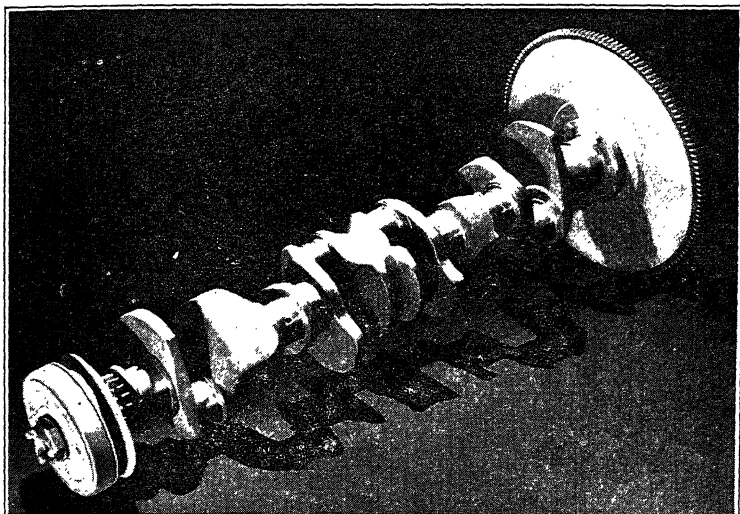

Fig. 7. Oldsmobile Six (1937) Crankshaft, Flywheel and Vibration Dampener
**Front-End Crankshaft Vibration Dampener.** Another device of many years standing is the vibration dampener applied to the front end of the crankshaft outside the crank case. These devices have taken a number of forms, the original ones being in the form of a light flywheel, which gave a two-flywheel job. Later designs resulted in applications a bit different. Most of these have provision for the application of the effects of inertia in response to the torsional vibration. Fig. 7 shows an application of this kind.
and tapped so as to receive the cap screws which hold the single plate clutch in position, the single plate clutch now being used almost universally. Here again special methods of assembling are sometimes resorted to so that the clutch and flywheel may be assembled in but one position, the idea being to see that parts which are balanced cannot be assembled in a wrong position. The flywheel ring gear may be machined integral with the flywheel, that is, the teeth of the flywheel ring gear which are engaged by the starting-motor pinion gear are machined from the cast-iron metal of the flywheel proper, Fig. 7. In other cases, the flywheel is provided with a steel ring which may or may not be heat treated. Usually these rings are shrunk in position on the flywheel, no other means being used to secure them to keep them from turning.